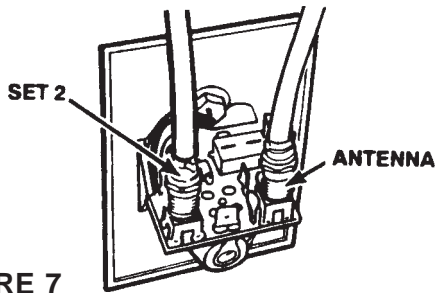

FIGURE 7
STEP 6. The power supply/wall outlet assembly may be flush mounted in most standard electrical boxes. To flush mount cut a hole in wall to fit the box. Run 2 #12 wires between wall outlet and 12 VDC source and route download cable to this location. Install cable between set 2 outlet and power supply SET 2 jack at this time. See Figure 7.
STEP 7. Install connectors on download and set 2 cable as shown on page 4. Attach antenna download cable to jack on power supply marked "ANT". See Figure 7.